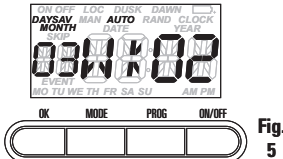

Fig. 5
- After choosing **AUTO** or **MAN**, press the **OK** button. The timer's starting date for DST will show in the display in the form of **MONTH** and week (Fig. 5).